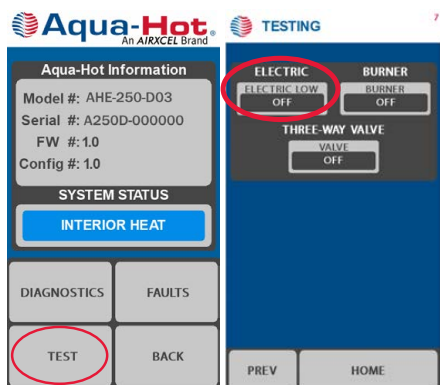

Figure 58
2. Locate the LCD screen and navigate to the TESTING page (Figure 58). Tap ELECTRIC.